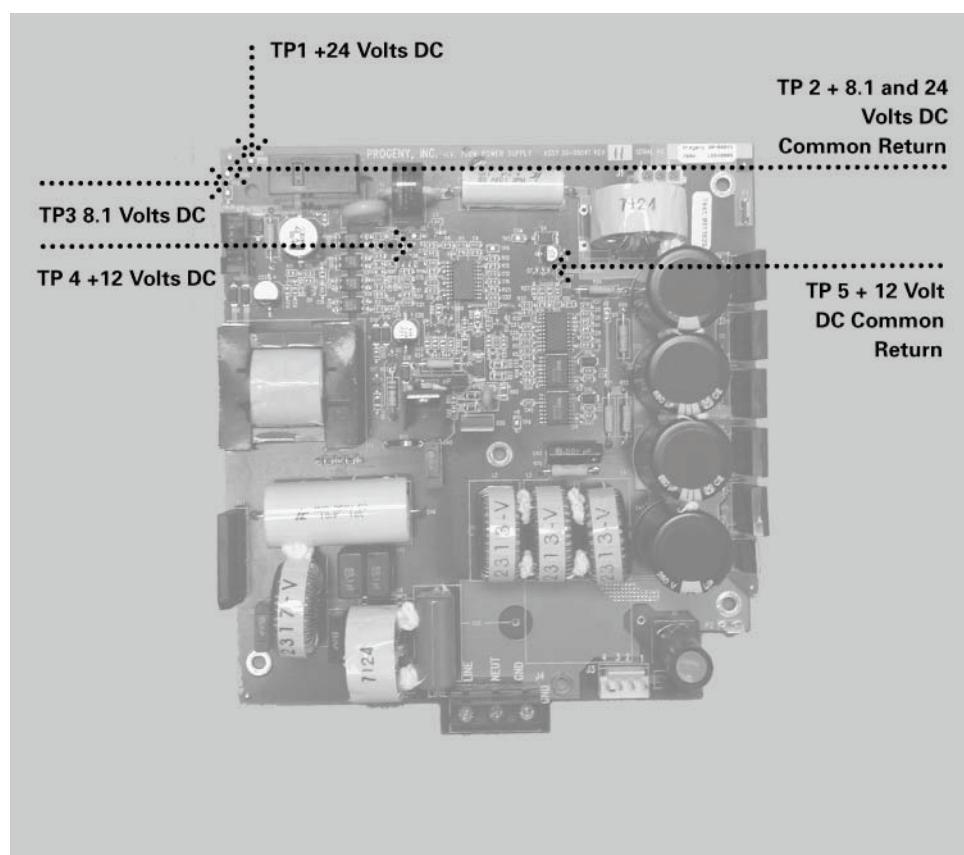

Figure 55
2. On the Power Supply Board, use TP2 as a common test point to check TP1 +24 volts DC and TP3 8.1 volts DC. Then, use TP5 as the common return to check TP4 for the presence of +12 volts DC, as shown in Figure 55. Should any of these voltages not be present, replace the Power Supply Board.